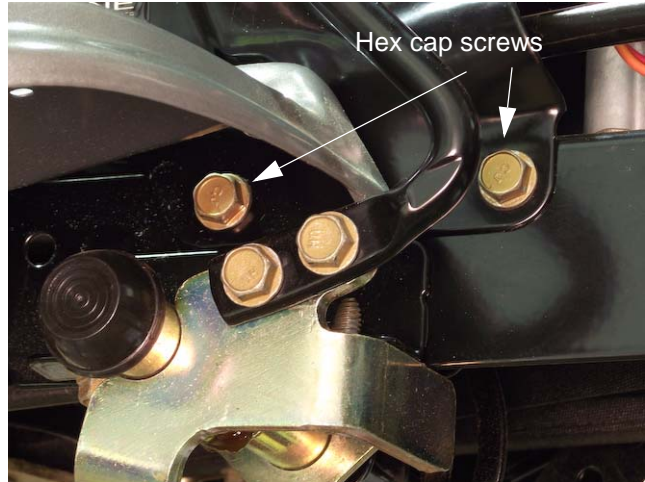

Figure 4.24
11. Remove the two hex cap screws securing the lower dash to the right frame of the rider. See Figure 4.24.